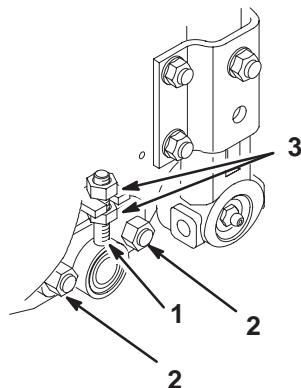

Figure 5
6. Loosen the two locknuts securing the bedbar adjuster to the cutting unit side plate (Fig. 5).
7. Adjust nuts to move bedbar adjuster up or down until paper is cut along entire bedknife surface, when bedknife adjustment knob is adjusted to no more than two clicks beyond first contact of reel bedknife (Fig. 5).